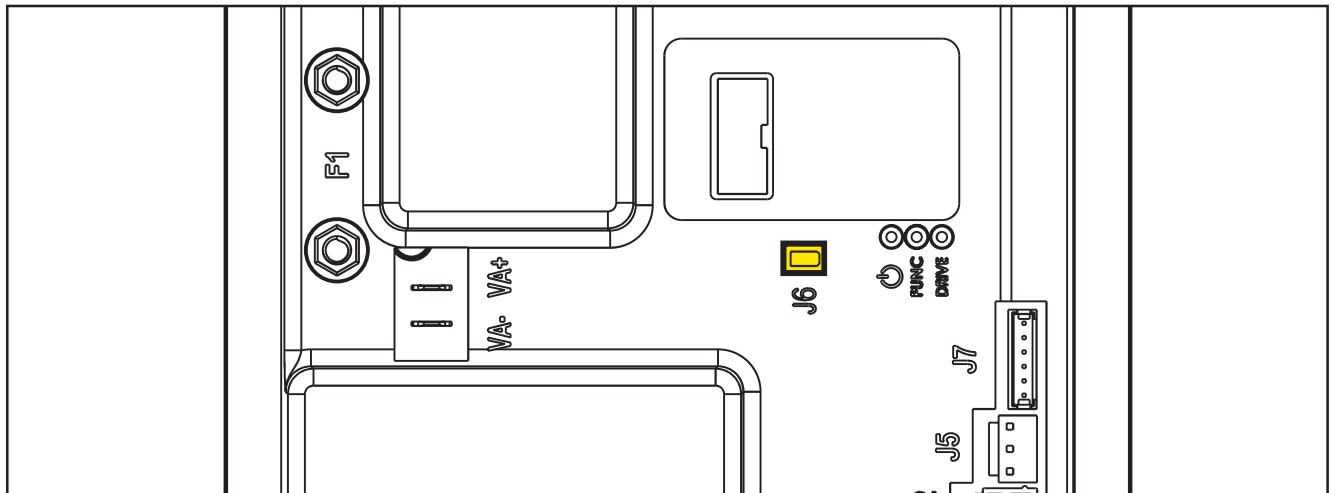

Figure 27:
**(Figure 27) J6: JUMPER, 2-ways vertical**